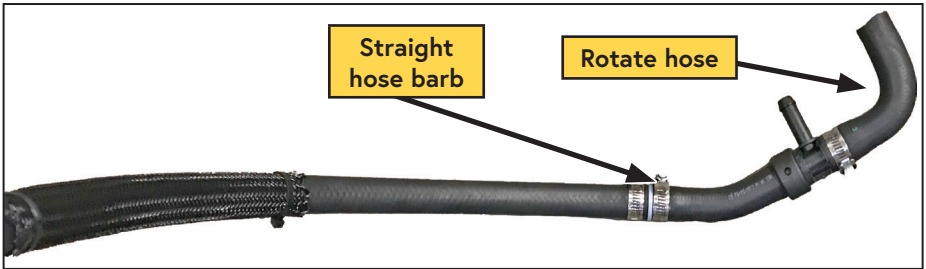

Figure 92 — Installing the secondary coolant hose
- ☐ Rotate the hose (CAC side) on the Tee into the orientation shown (Figure 92).
- ☐ Install the straight hose barb into the modified secondary cooling hose and secure it with a gear clamp (Figure 92).
- ☐ Install the supplied abrasion sleeve onto the heater hose approximately 3 in from the end of the hose extension (Figure 92).